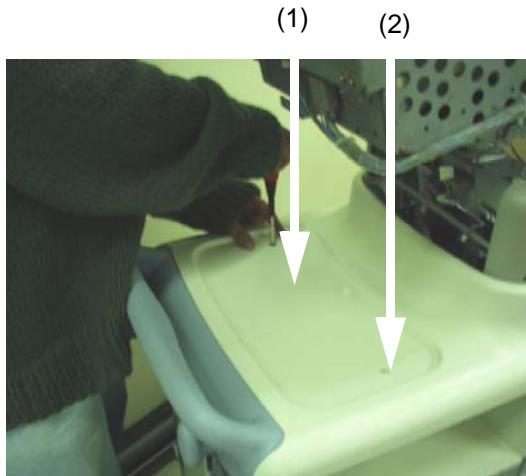

Figure 8-47 Unscrew 2 screws from the Top cover
- 4.) Unscrew two screws (1-2) from the top side of the Top cover. Refer to Figure 8-47.